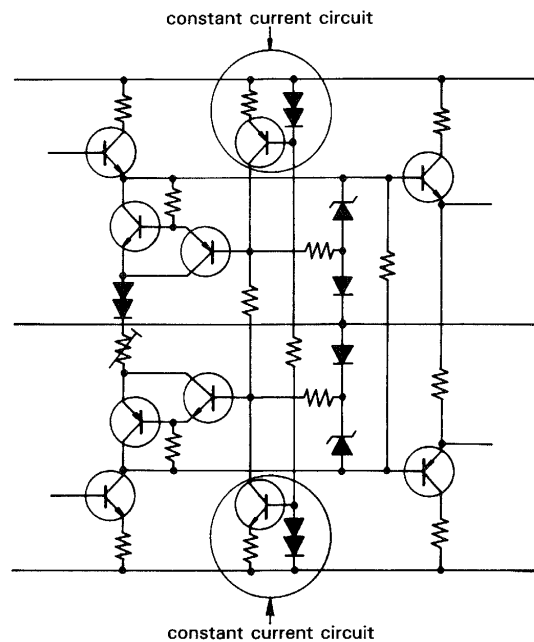

Fig. 25 Fed from constant-current power source
- (1) In Fig. 25, power is supplied from constant current power source according to its principle. This has been employed in A-7, A-8, A-9, SX-8, SX-9, etc.